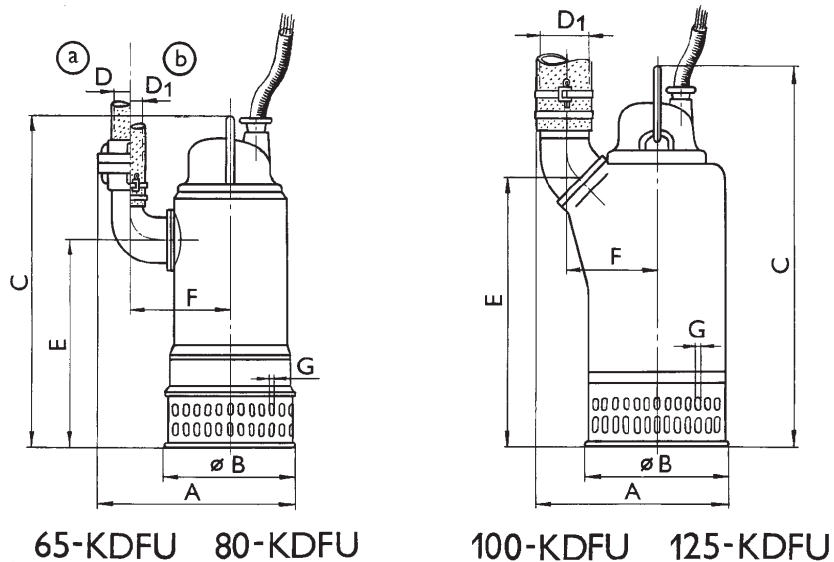

Fig. 2
Rubberized diffuser regulates water flow in the direction of the pump longitudinal axis, i.e. through connecting channels in the lower bearing housing (350.1), and further over the annular space between the electric motor stator jacket (811) and the pump outer shell (151), in which upper part of the discharge branch is provided with an end thread for screwing a fixed part of fire quick-coupler on which a movable part of the quick-coupler together with a rubber-lined fire hose are to be put. With some pump sizes a hose is attached to the discharge elbow with the aid of fastening clamps – see Fig. 2.